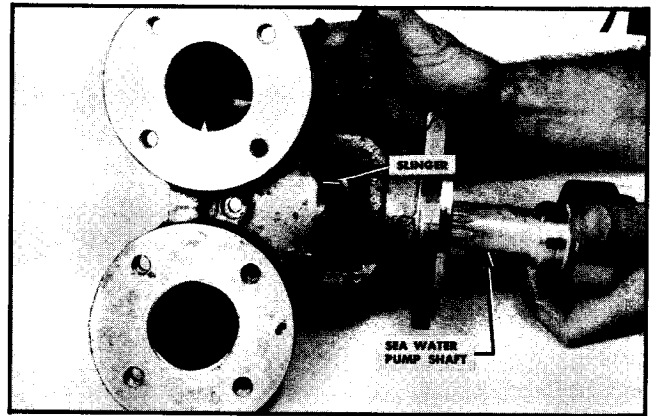

Fig. 8-5. Installing sea water pump shaft
4. Insert shaft while holding rubber slinger as shown in Fig. 8-5.